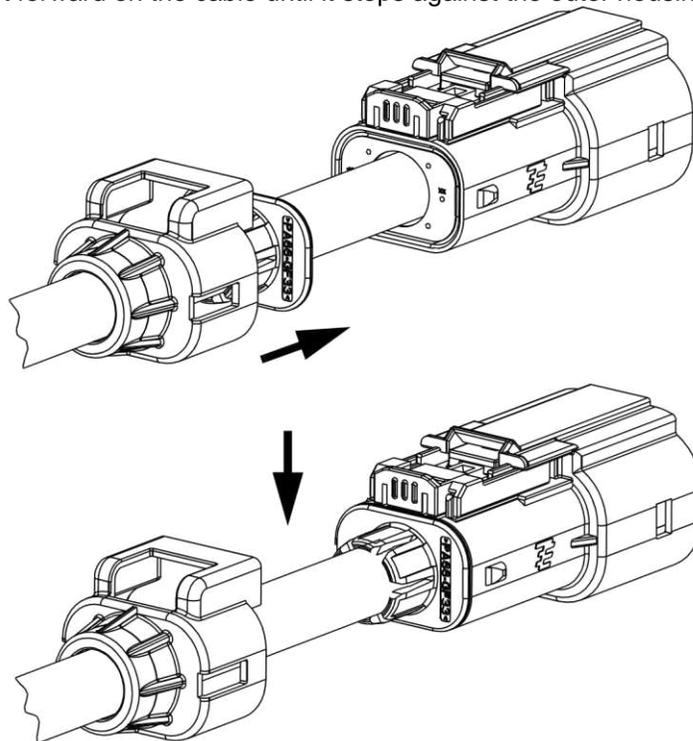

Figure 18
- 3.6.15. Slide the collet forward on the cable until it stops against the outer housing as shown in Figure 18.